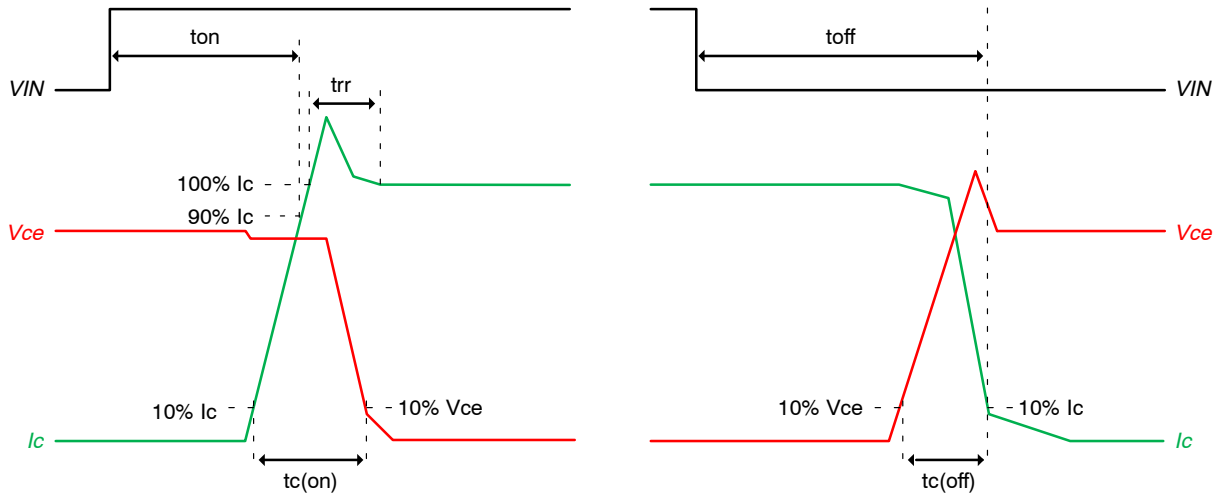

Figure 3. Switching Time Definition
- ton and toff include the propagation delay of the internal drive IC. tc(on) and tc(off) are the switching times of IGBT under the given gate*driving condition internally. For the detailed information, please see Figure 3.